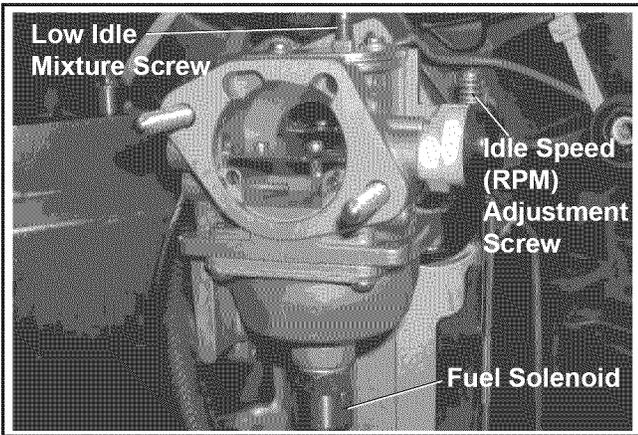

Figure 16. Carburetor Details.
In compliance with government emission standards, the carburetor is calibrated to deliver the correct fuel-to-air mixture to the engine under all operating conditions. The high speed mixture is set at the factory and cannot be adjusted. The low idle fuel adjustment screw (if equipped) is also set at the factory and normally does not require adjustment. See Figure 16. Engines in this series depending on the model and application, may also be equipped with a Governed Idle System.
1. **Idle Fuel Adjustment:** with the engine stopped, turn the low idle fuel adjusting screw in (clockwise) until it bottoms lightly. See Figures 16 and 17.